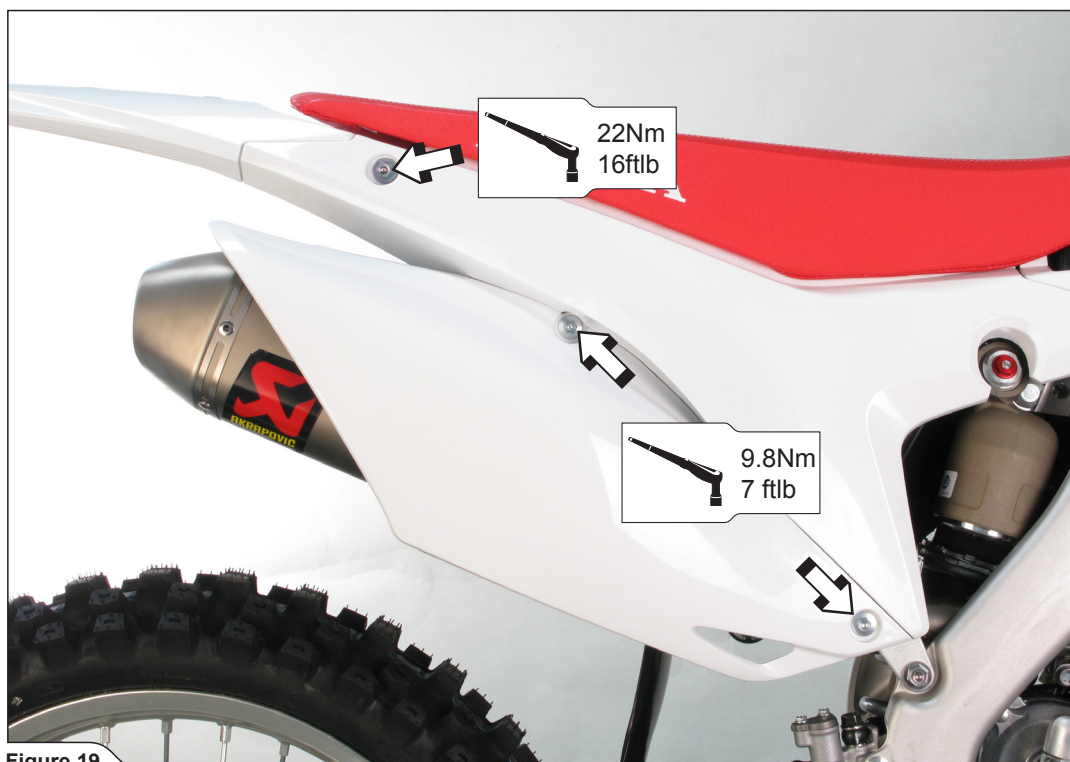

Figure 19
11. Remount both side panels and seat. Tighten the marked bolts on both sides of the motorcycle to the specified torques (**Figure 19**).